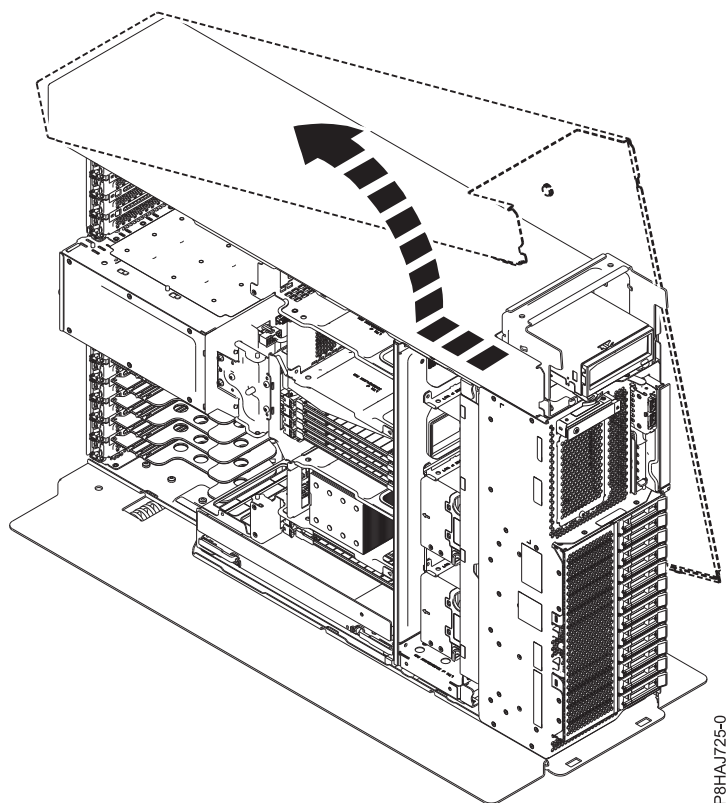

Figure 32. Removing the 8286-41A side cover
5. Slide the side cover off of the system in the direction that is shown in Figure 32 on page 48.